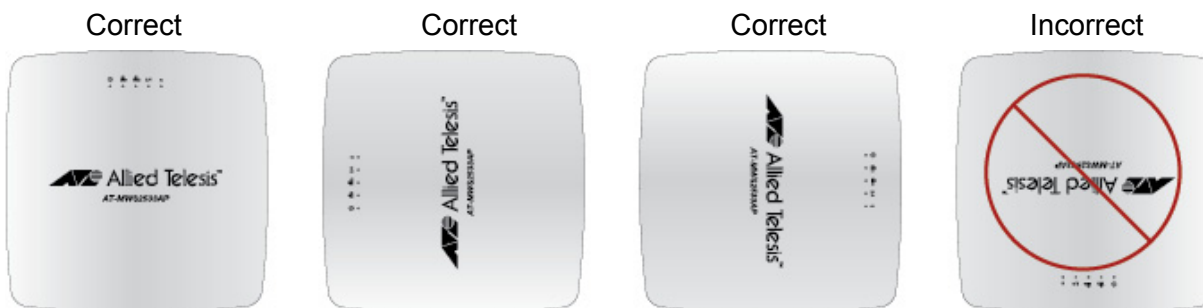

Figure 8. Correct and Incorrect Wall Installation
- ❑ The AT-MWS2533AP access point can be mounted on the wall; however, installing the access point with the LAN ports facing up is *not* allowed. See Figure 8 for correct and incorrect wall installation orientations.